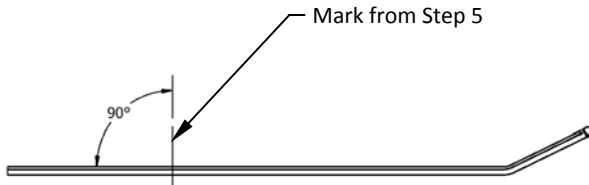

Figure 11
8) **See Figure 11.** Remove double bow arm from Cross Tube (6) and cut marked location square with arm. Repeat for second arm.